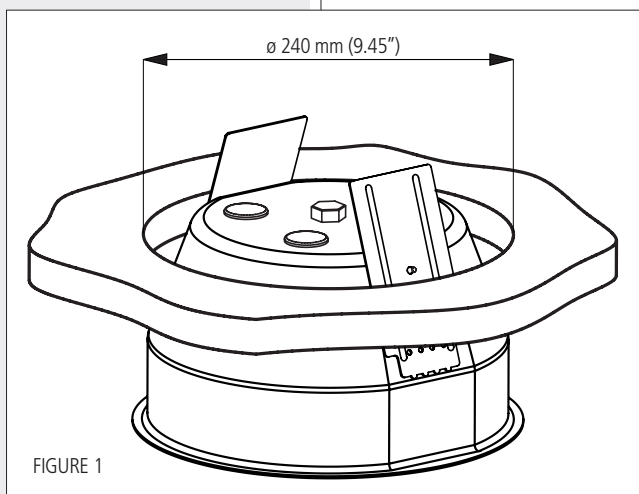

FIGURE 1
1. Drill a hole of diameter 240 mm (9.45") in the false ceiling panel, as shown in figure 1.
3. Insert the fire dome in the hole previously drilled (as shown in figure 1).